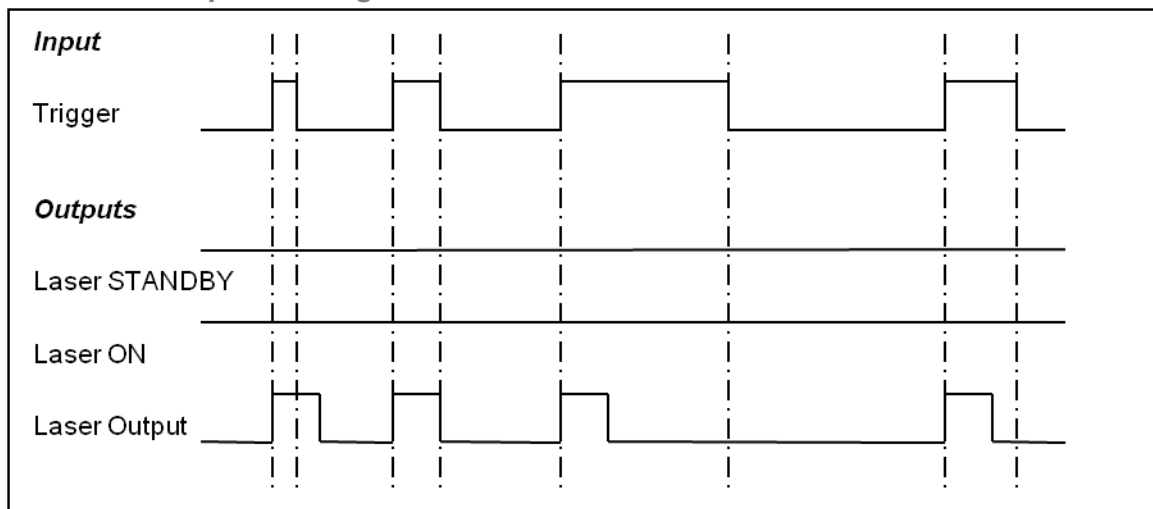

Figure 82 Edge Trigger Operation (Pulsed Output Only)
- See Figure 56 to Figure 82 for example functionality